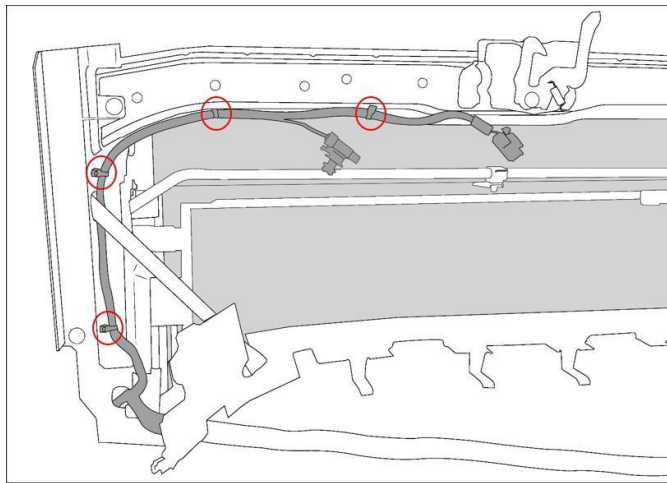

Figure 7.
9. MY2019-2024 and MY2025+ Remove the body-side camera harness and hood latch harness from the radiator support structure (fig. 7)